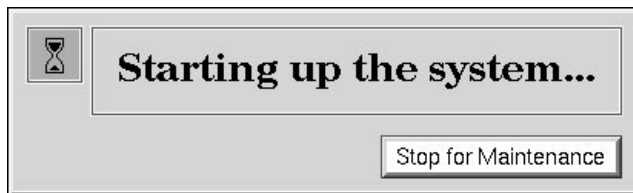

Figure 7-5 Starting up the System Notifier
4. When you see the notifier shown in Figure 7-5, click *Stop for Maintenance*, or press **<Esc>**.